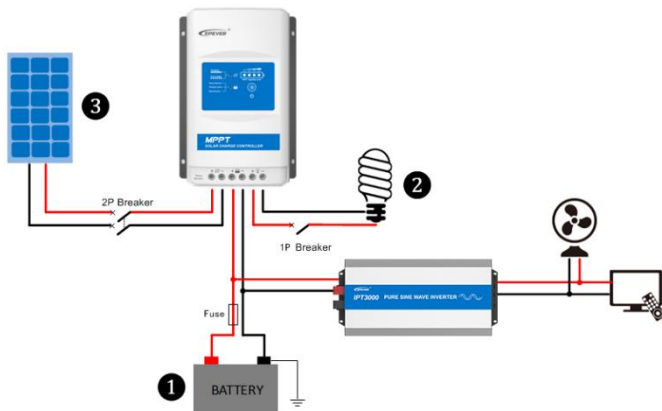

Figure 2-2 Schematic Wiring Diagram
Step 2: Connect the system in the order of ❶ battery → ❷ load → ❸ PV array by Figure 2-2 “Schematic Wiring Diagram” and disconnect the system in the reverse order ❸❷❶.